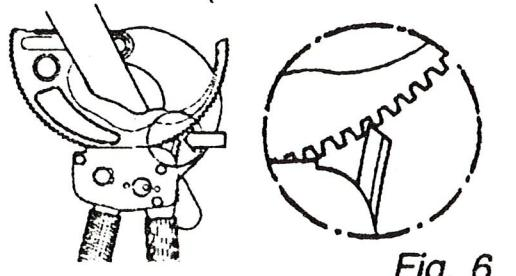

Fig. 6
4. The retaining pawl must grip the gear ring of the pivoted blade (fig. 6).